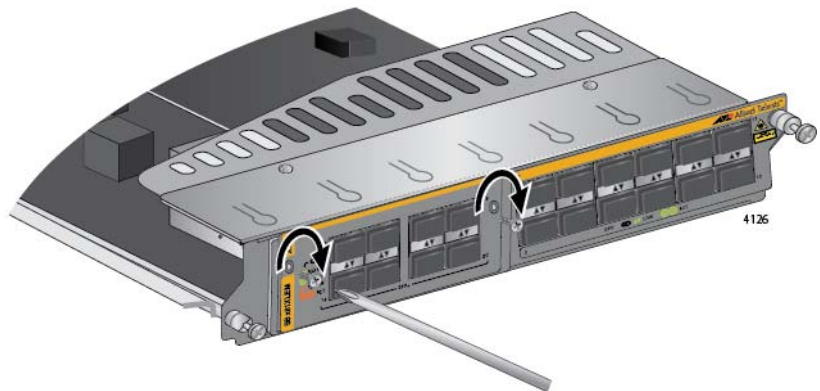

Figure 84. Securing the Expansion Module
10. With a Phillips-head screwdriver, install the two screws from step 4 to secure the expansion module to the line card. Refer to Figure 84.